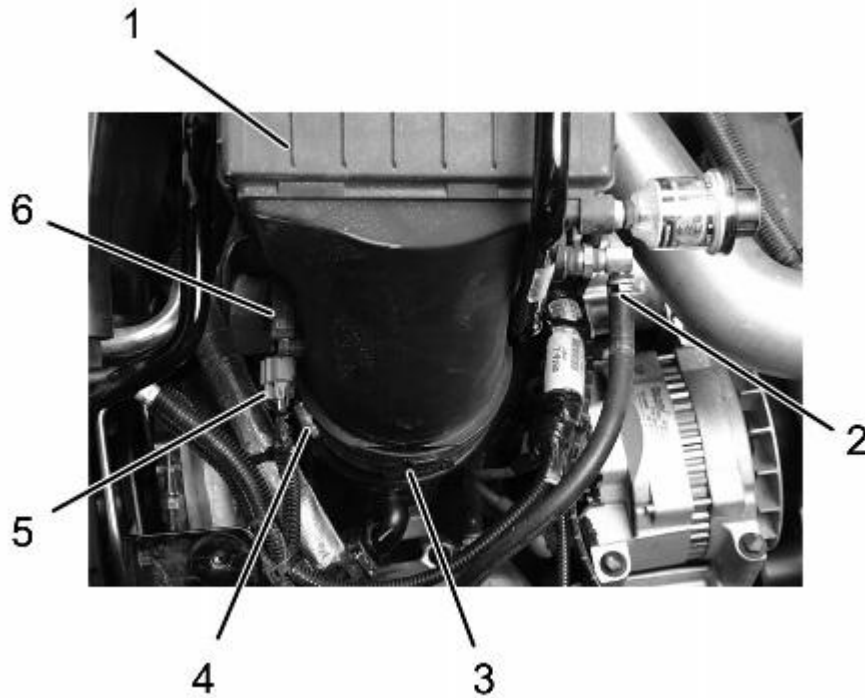

Figure 21. MAF Sensor and Air Compressor Inlet Hose.
23. Install air box outlet into LP turbocharger inlet elbow duct (Figure 21 Item 3) and torque clamp (Figure 21 Item 4).
24. Connect air compressor inlet hose (Figure 21, Item 2) to air box (Figure 21, Item 1).
25. Connect MAF sensor connector (Figure 21, Item 5) to MAF sensor (Figure 21, Item 6).